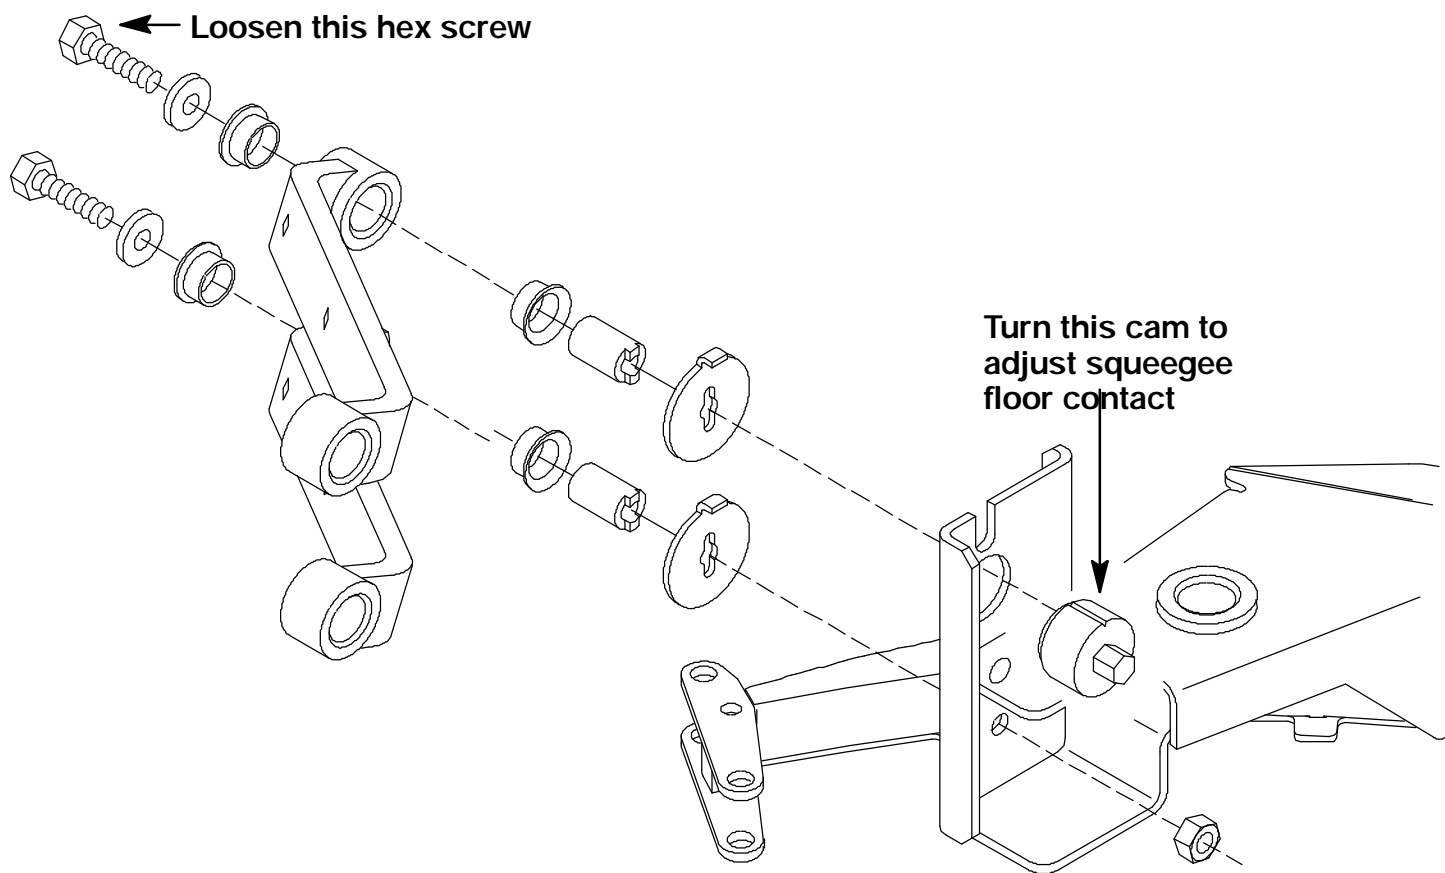

FIG. 3 - Rear Squeegee Adjustment Cams
5. Loosen the hex screw on the outside of the adjustment cam on the upper squeegee link, at the squeegee frame. On both sides. **(Do not loosen screws more than 1/2-3/4 turn or until cam can move by turning with wrench).** (Refer to FIG. 3)
6. Place a wrench on the hex flats of the cam. **Turn the cams toward the front of the machine to lower the middle of the squeegee. Turn the cams toward the rear of the machine to raise the middle of the squeegee.** Normally the machined groove on the top of the cam will be either straight up or slightly to the rear of the machine. Cams on both sides should be roughly at the same orientation. (Refer to FIG. 3)
8. Turn the casters back down until they touch the floor, then turn the caster back up two full turns. Lock the caster jam nuts. (Refer to FIG. 3)